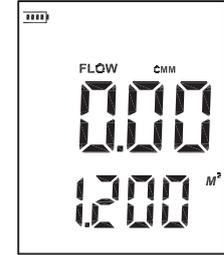
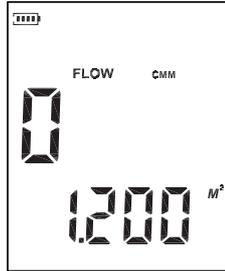

Figure 4
Figure 5
- Press the " VEL/FLOW " key to get into " FLOW " mode, at this time the LCD screen as shown in figure 4:
- Press the " AREA " key long by 3 seconds, LCD above 4 numbers will change into 1, see Figure 5, then input the duct area, such as 1.2, first press the key " ▲ " to the left one is 1, then press " ● " the decimal point key, then press " ► " shift key to make the LCD display " 1.0 ", then press the " ▲ " key "0" to "2" and then press " ► " shift key two times, so that the LCD display " 1.200 ", and press the " ► " key shift confirmation, at this time the LCD screen as shown in figure 4: